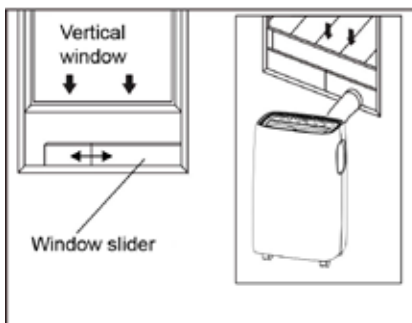

Fig 5
4. Affix the hose outlet into the window slider kit and seal. (Fig 5 and 6).